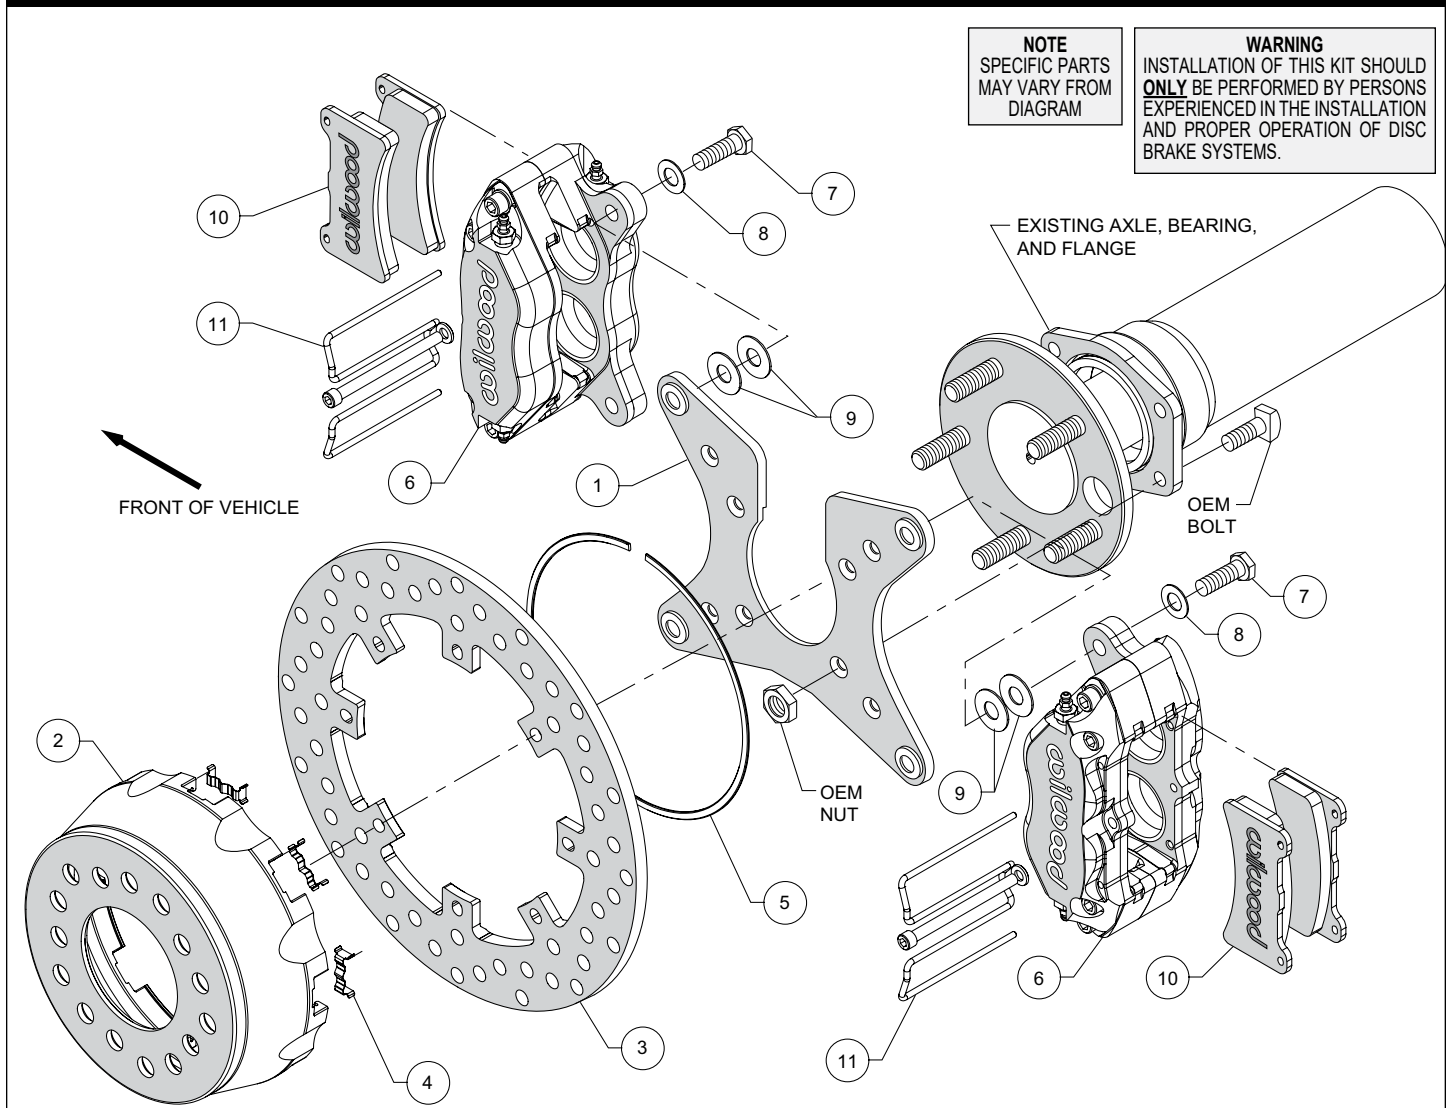
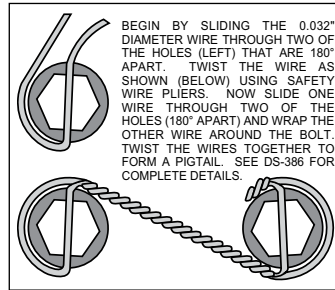

Figure 1. Typical Installation Configuration
Figure 5. Safety Wire Diagram
Assembly Instructions (numbers in parenthesis refer to the parts list and Figure 1 on the preceding pages): **CAUTION:** All mounting bolts must fully engage clinch nuts. Be sure to check that all bolts are either flush or protruding through flanged side of clinch nut after shimming, Figure 5.
- Install the caliper mounting bracket (1), with the slot for the axle pointing upward, to the housing flange using the OEM bolts and nuts, as shown in Figure 1 and Photo 1. Ensure that the caliper mounting ears on the bracket are oriented fore and aft on the car, with the heads of the clinch nuts facing outboard, Photo 1. Apply red *Loctite*® 271 to the OEM bolt threads and torque to OEM specifications.
- Insert the dynamic mount wear clips (4) into the slots in the hat (2) making sure the tabs snap in place, Photo 2. Orient the rotor (3) as shown in Figure 1 and Photo 3, with the flush mount tab side facing the hat. Attach the rotor to the hat using snap ring (5) by pushing down on the rotor and installing the ring into the groove in the hat, as shown in Photo 4. Ensure that the ring is fully engaged in the groove.
- Align the correct hole pattern in the hat (2) with the axle stud pattern and slide the hat/rotor assembly onto the axle hub. **NOTE:** The hat must fit flush against the axle flange or excessive rotor run out may result. Install three lug nuts (finger tight) to keep the hat/rotor in place while continuing with the installation. **NOTE:** The hats included in this brake kit are drilled for .68" diameter wheel studs.
- NOTE:** Please reference the caution statement at the beginning of the assembly instructions. Mount one caliper (6) onto the mounting bracket (1) using bolts (8) and washers (7), as shown in Figure 1. Initially place two .035" thick shims (9) on each bolt between the caliper and the bracket, Photo 5. Temporarily tighten the mounting bolts and view the rotor (3) through the top opening of the caliper. The rotor should be centered in the caliper, Photo 6. If not, adjust the caliper by adding or subtracting shims between the bracket and the caliper. Always use the same amount of shims on each of the two mounting bolts.
For an added measure of security, the bolts may be safety wired using standard 0.032 inch diameter stainless steel safety wire as shown in Figure 5. Please refer to Wilwood's data sheet DS-386 (available at www.wilwood.com/Pdf/DataSheets/ds386.pdf) for complete safety wire installation instructions. Repeat this procedure for the second caliper.